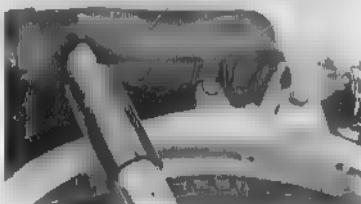

Fig. 4.41 Removing seat setting nuts
2. Remove the seat setting nuts ① and remove the seat ②. (Fig. 4.41)